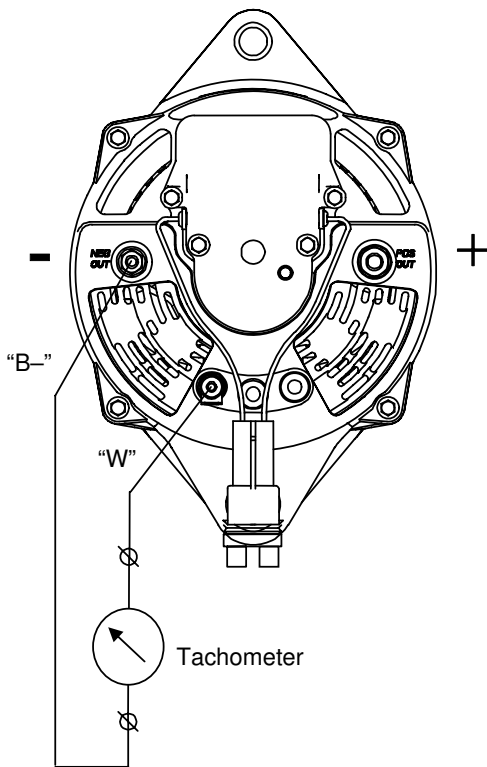

Figure 9: Connection of a tachometer (position of the terminals may differ; see APPENDIX figures A-6 till A-9)
If a tachometer is used, it should be connected between the W terminal of the alternator (see reference ⑧) and the B- terminal of the alternator (or the NEG pole of the battery). See figure 9.